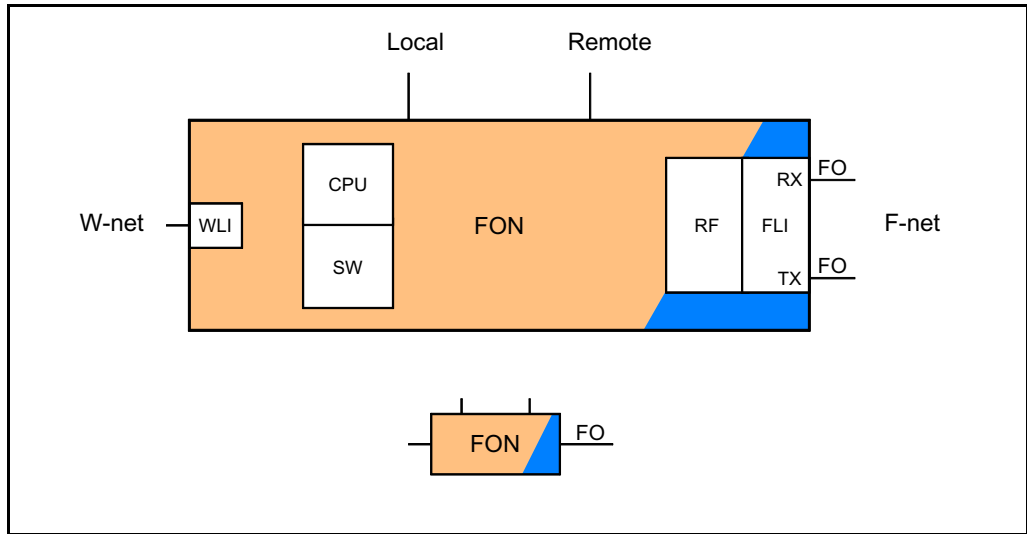

Figure 5-5. FON with communication interfaces
Figure 5-5 shows the FON board with the communication interfaces pointed out. The figure shows also some of the most important function blocks on the FON board. The small figure is a simplified block symbol of the FON board.
The CPU unit with loaded software (SW) controls the FON unit including the network communication. The RF block in Figure 5-5 converts electrical signals to optical signals and vice versa.
FLI is the communication port for F-net. In Figure 5-5, this part of the FON board is marked to indicate an optical part.